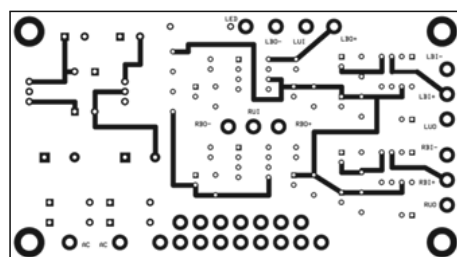

FIGURE 4: Top traces.
- A trace map of the top side of the board as shown in Fig. 4.